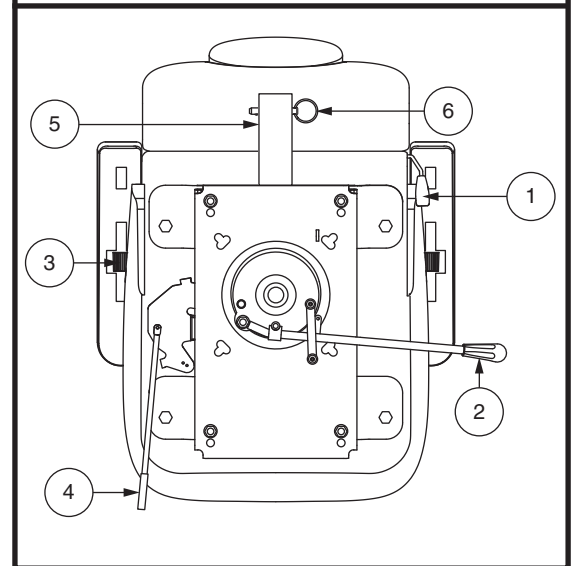

Figure 19. Seat Adjustments
To adjust your scooter's reclining seat, you can adjust the seatback angle with the seatback adjustment lever. See figure 19.
1. Pull upward on the seat rotation lever to disengage the seat. **See figure 19.**
Armrest angle of your scooter can be adjusted upward or downward by turning the adjustment dial. **See figure 19.**
1. Move the seat sliding lever located at the lower left side of the seat outward. **See figure 19.**
The rear-mounted accessory bracket allows you to attach a personal accessory such as a basket, walker holder, or oxygen tank to the back of your scooter. Utilize the detent pin to securely mount your item to the accessory bracket. **See figure 19.** See your authorized Provider for details.